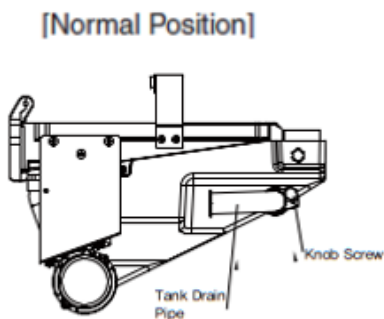

Fig. 6
See Fig. 6.
- 15) Remove the screw, then move the water tank drain pipe to the normal position. See Fig. 6. Use the screw to secure the water tank drain pipe in the normal position.